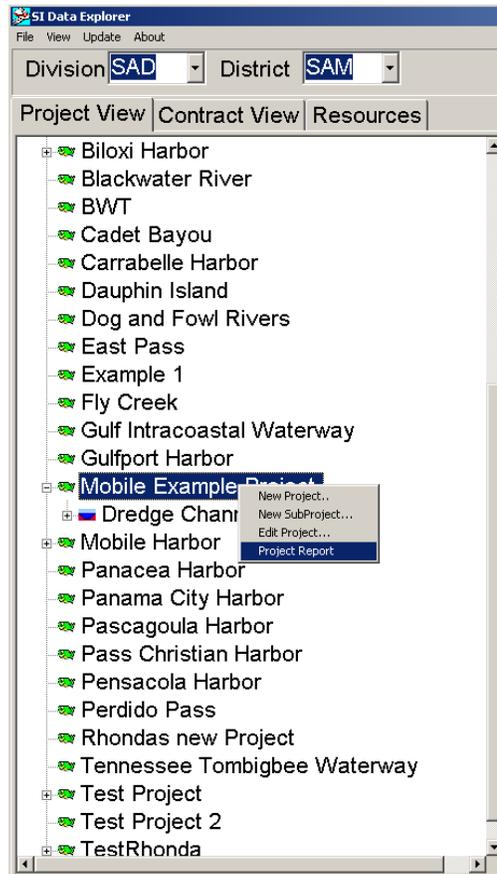
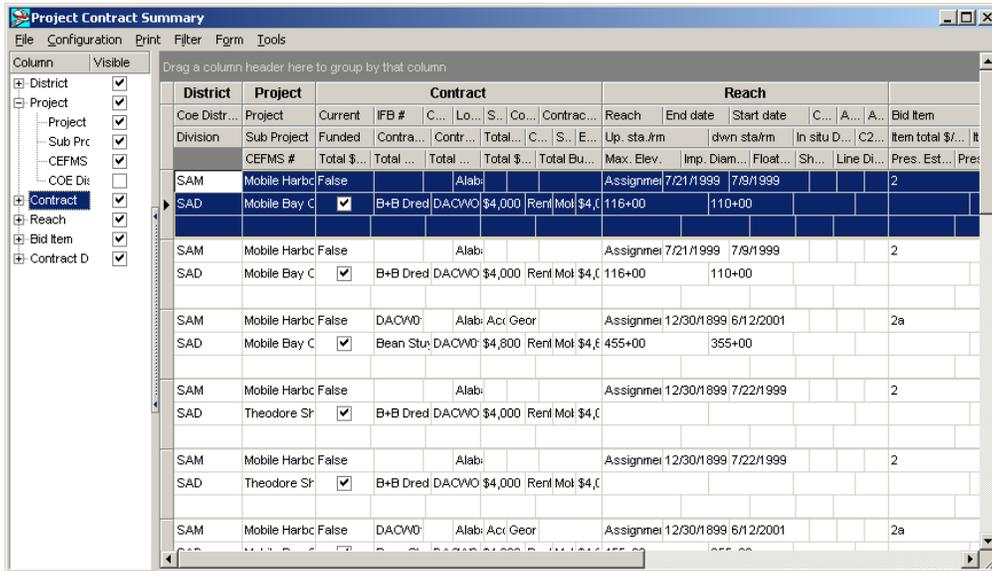

Figure 1.50 Project Report.
Figure 1.51 Project Report Window.
1. Right click on the project as shown in Figure 1.50 and select **Project Report**. The Project Report Window will now appear as in Figure 1.51
The column tree on the left side of the project report window as shown in figure 1.51 is used to toggle individual column displays on or off for report clarity. To toggle a column on or off, click on the check mark located next to the column name. Check marks will appear next to each column that is displayed. Filtering, sorting, and grouping the project report works similar to the manual load reports. Refer to that section for more information on the subject.